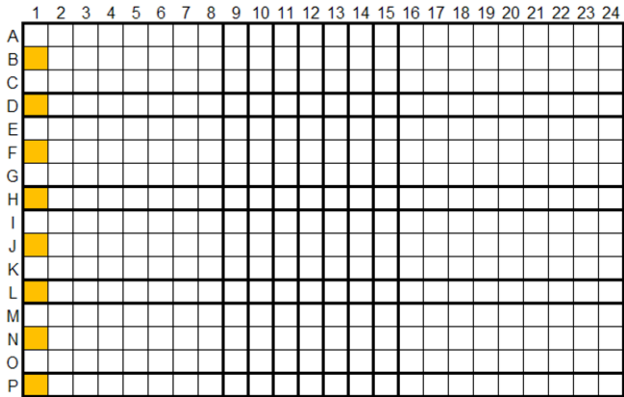

Figure 7 384 deep well plate for CGH+SNP Enzymatic Labeling containing Restriction Digestion Master Mix in quadrant 3
- 3 In a 384 deep well plate, add Restriction Digestion Master Mix to 8 wells in quadrant 3 (location B1, D1, F1, H1, J1, L1, N1, and P1). See Figure 7.